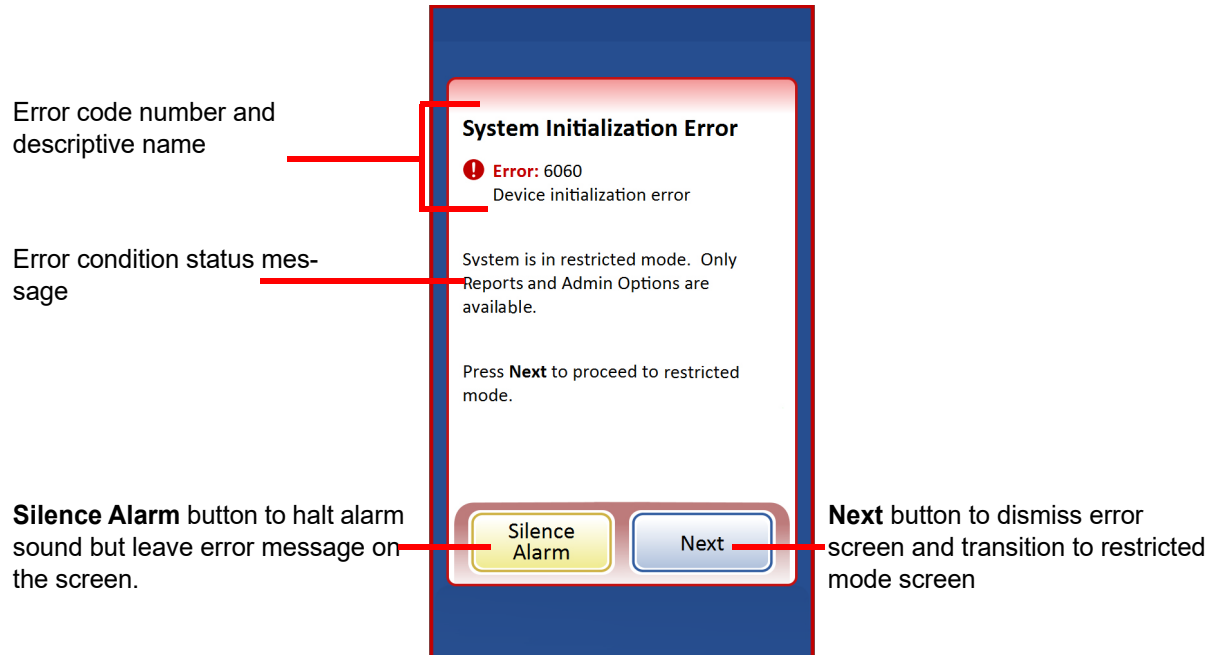

Figure 9-11 System detected an error
- Display the error message and sound the audible alarm, if enabled (see Figure 9-11.) The system attempts to recover (a minute or less).